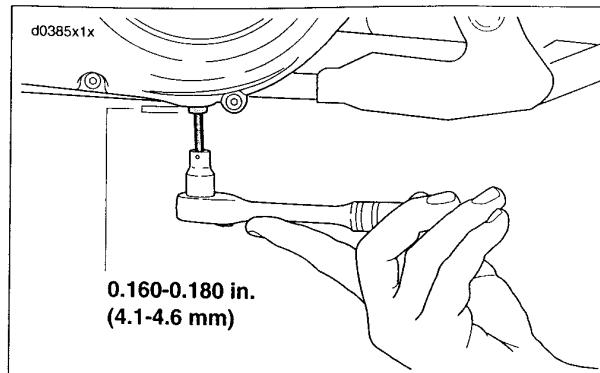

Figure 1-24. Removing Chaincase Drain Plug
- 1. See Figure 1-24. Remove drain plug at bottom of primary chaincase. Drain lubricant into suitable container.